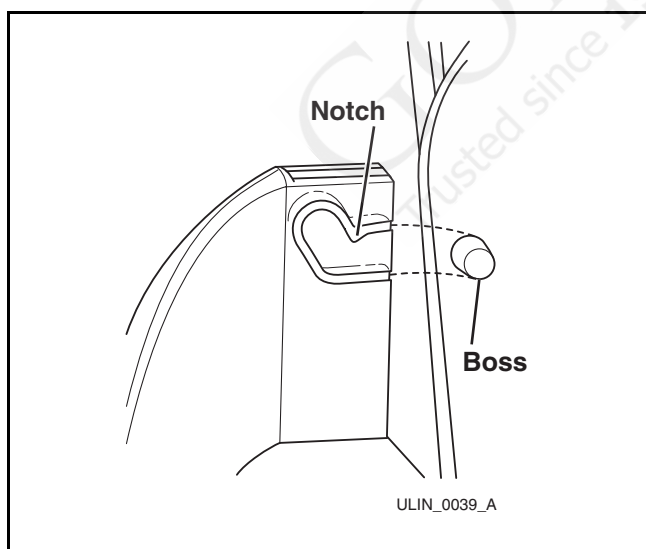

Figure 39
2. Carefully pull shelf off bosses (**Figure 39**).
1. Holding shelf in center, align notches in shelf with bosses in door (**Figure 39**).